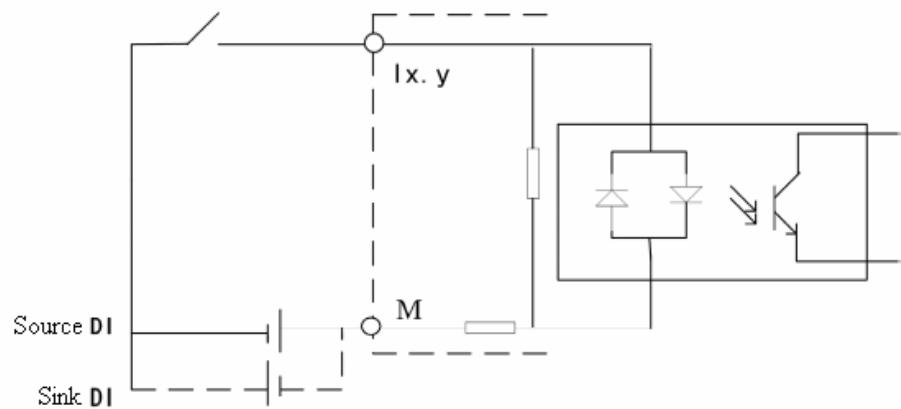

Figure 2.2.3 LM3104 Input Channel Equivalent Circuit
◊ Input channel (DI) equivalent circuit shown in Figure 2.2.3.